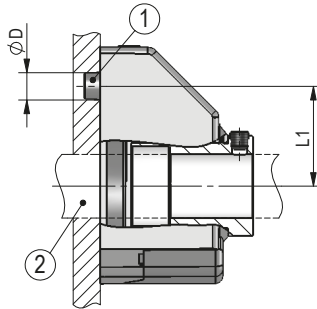

Fig. 1: Mounting dimensions
- ▶ Ensure a low shaft and angle offset between shaft and accommodation bore by applying appropriate manufacturing methods (see Fig. 1 + Tab. 1).
Preparing mounting (Fig. 1, Fig. 2, Fig. 3):
Mounting (Fig. 1, Fig. 2, Fig. 3):